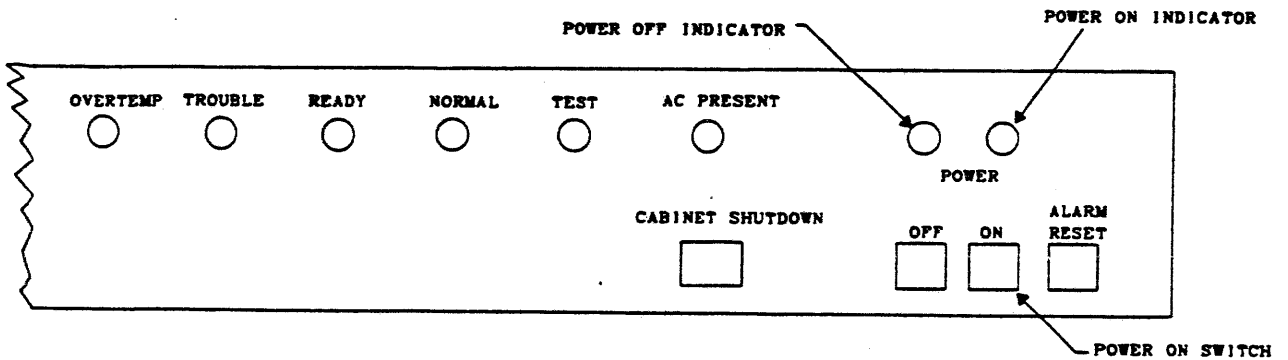

FIGURE 4-17. OPERATOR CONTROL PANEL (POWER OFF AND POWER ON INDICATORS)
Depress the POWER ON switch located on the Operator Control Panel. See Figure 4-17. Verify that the following events occur:
- The POWER ON indicator is illuminated. This indicator is located on the Operator Control Panel. See Figure 4-17.
- The POWER OFF indicator is extinguished. This indicator is located on the Operator Control Panel. See Figure 4-17.